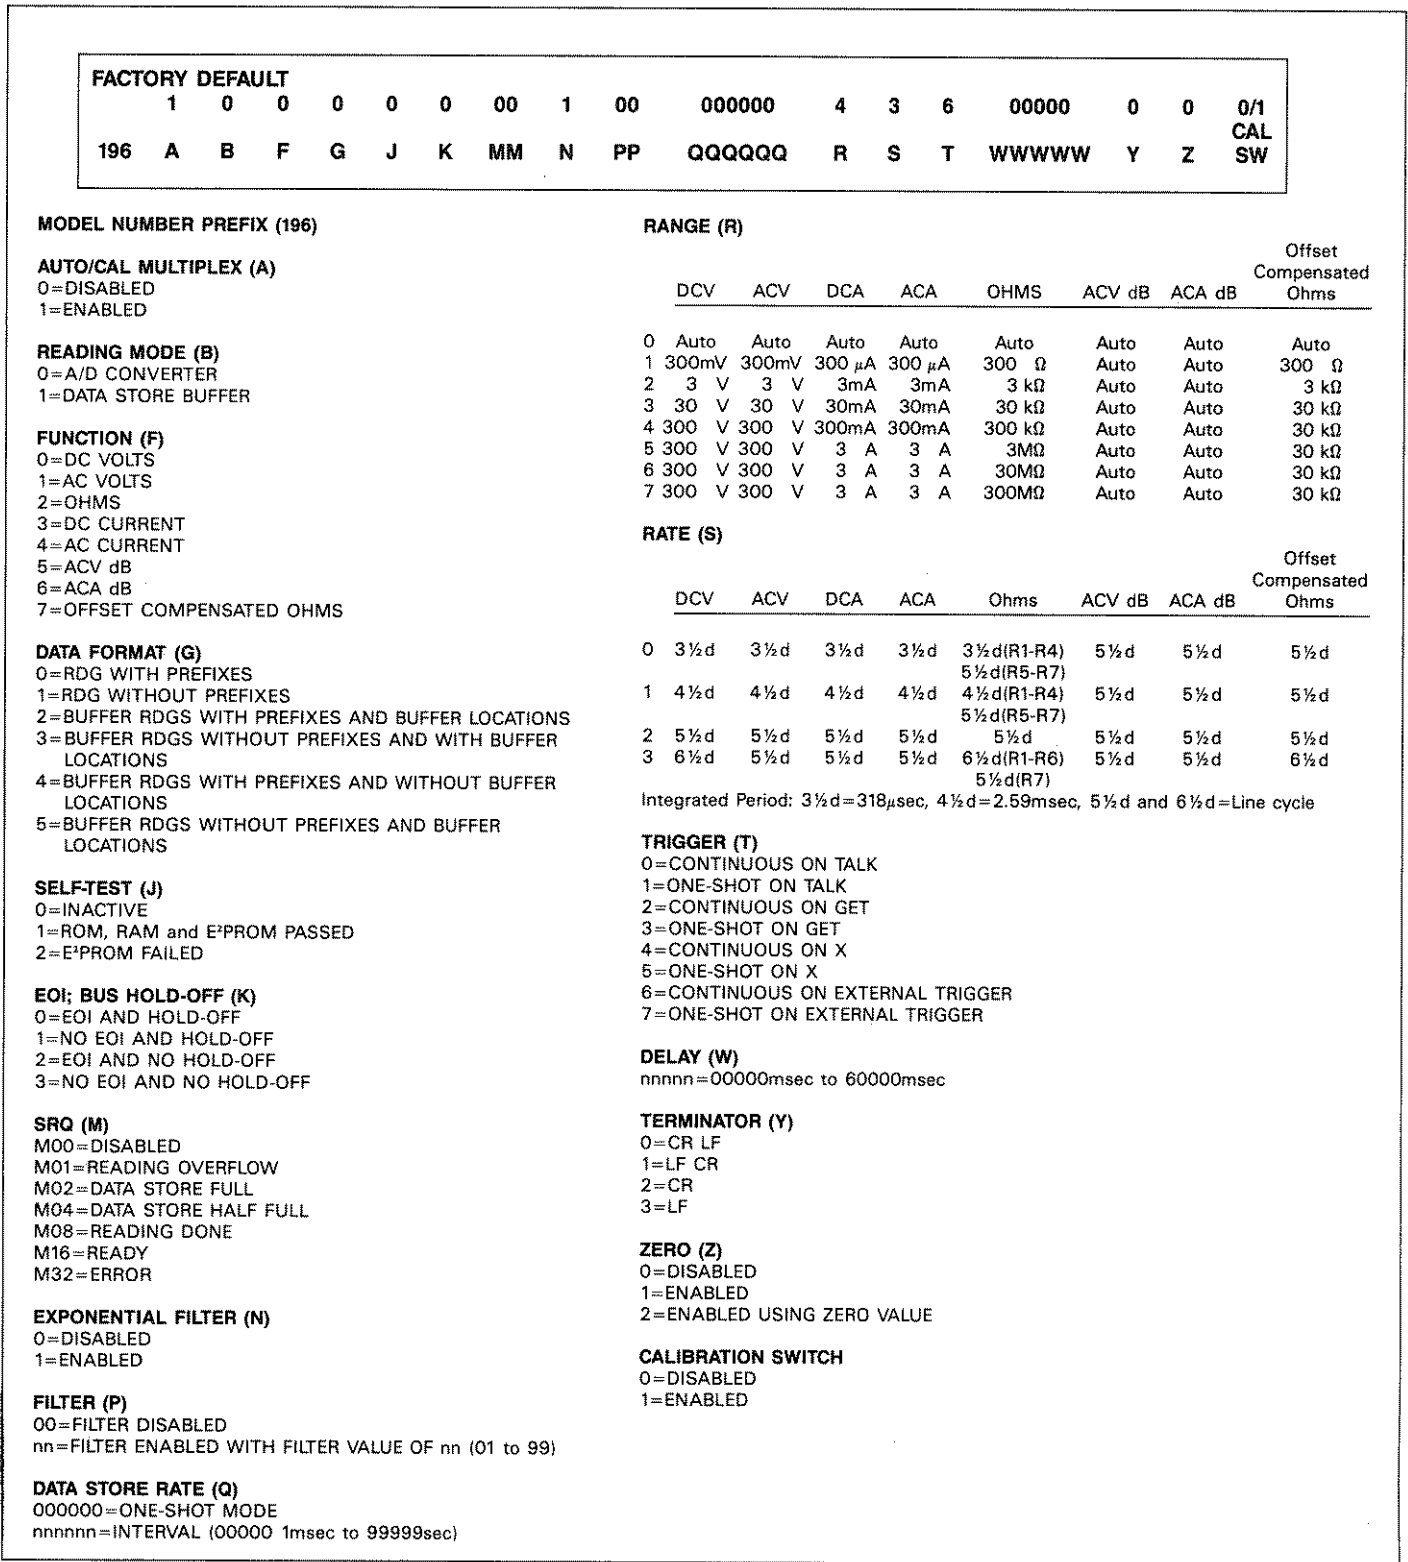

Figure 3-8. U0 Machine Status Word and Default Values
The format of U0 status is shown in Figure 3-8. Note that the letters correspond to modes programmed by the respective device-dependent commands. The default values in the status word are also shown in Figure 3-8. Note that all returned values except for those associated with the terminator correspond to the programmed numeric values. For example, if the instrument is presently in the R3 range, the second (R) byte in the status word will correspond to an ASCII 3.